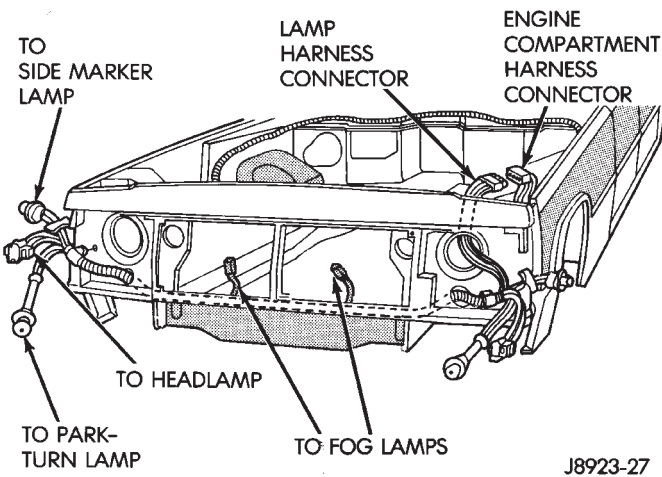

Fig. 52 Front Lamp Wire Harness Connectors
- (8) Connect the front lamp wire harness connectors to the engine wire harness connectors (Fig. 52).
- (9) Install the front lamps.
- (10) Install the front bumper.
- (11) Install the wheel, remove the support and lower the vehicle.
- (12) Right fender only: install the hood support rod on the fender inner panel.
- (13) Install the hood bumper on the fender inner panel.
- (14) Right fender only: install the Daytime Running Light (DRL) module on fender inner panel.